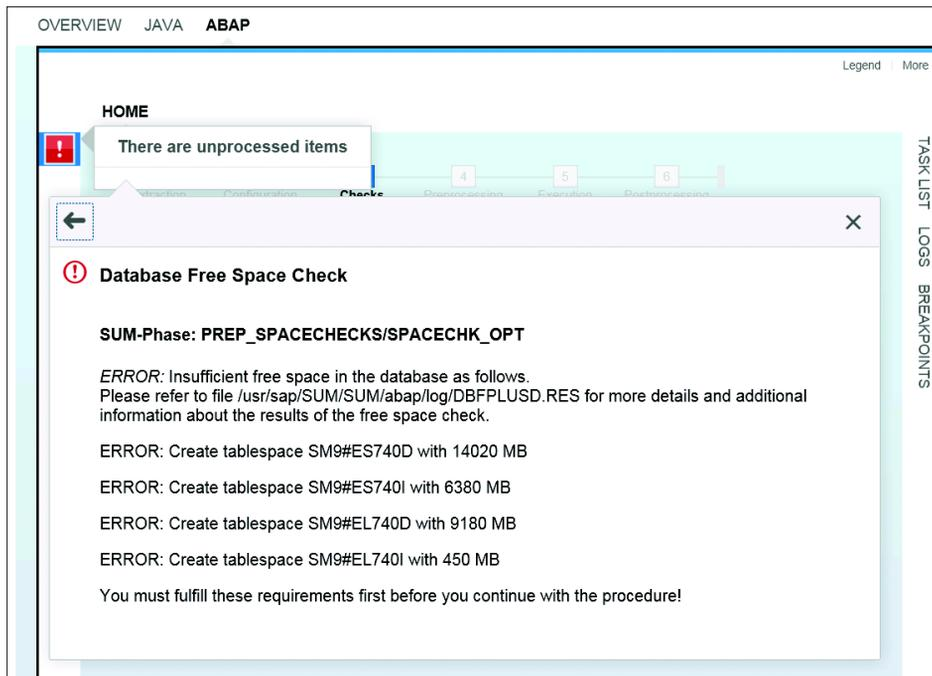

Figure 57 Error Message Concerning Creation of Tablespaces
1. For our upgrade, the first checks task on the ABAP side was unable to automatically create a number of new database tables (see Figure 57). Fortunately, SUM makes the manual execution of this simple. Review the logs in SUM to find the file called `DB6TBSXT.CLP`; it will be grouped